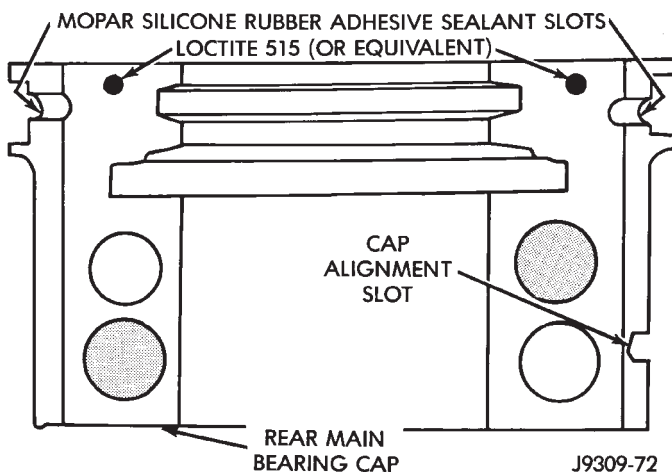
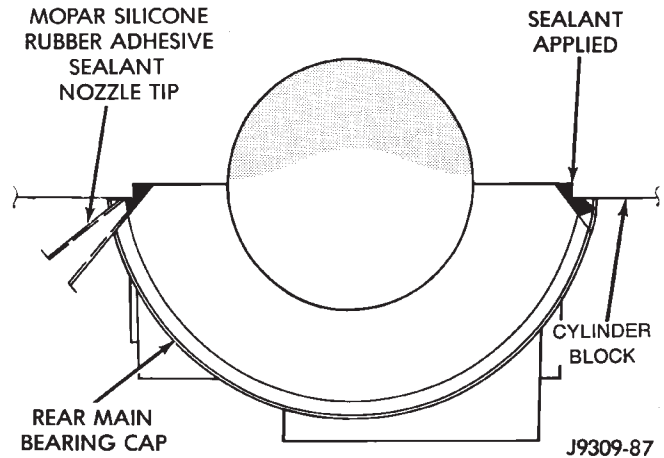

Fig. 18 Sealant Application to Bearing Cap
Fig. 19 Apply Sealant to Bearing Cap to Block Joint
- (1) Remove the crankshaft.
- (2) Lightly oil the new upper seal lips with engine oil.
- (3) Install the new upper rear bearing oil seal with the yellow paint facing towards the rear of the engine.
- (4) Position the crankshaft into the cylinder block.
- (5) Lightly oil the new lower seal lips with engine oil.
- (6) Install the new lower rear bearing oil seal into the bearing cap with the yellow paint facing towards the rear of the engine.
(7) Apply 5 mm (0.20 in) drop of Loctite 515, or equivalent, on each side of the rear main bearing cap (Fig. 18). Do not over apply sealant or allow the sealant to contact the rubber seal. Assemble bearing cap to cylinder block immediately after sealant application.
(8) To align the bearing cap, use cap slot, alignment dowel and cap bolts. Do not remove excess material after assembly. Do not strike rear cap more than 2 times for proper engagement.
(9) Clean and oil all cap bolts. Install all main bearing caps. Install all cap bolts and alternately tighten to 115 N•m (85 ft. lbs.) torque.
- (10) Install oil pump.
(11) Apply Mopar Silicone Rubber Adhesive Sealant, or equivalent, at bearing cap to block joint to provide cap to block and oil pan sealing (Fig. 19). Apply enough sealant until a small amount is squeezed out. Withdraw nozzle and wipe excess sealant off the oil pan seal groove.
- (12) Install new front crankshaft oil seal.
- (13) Immediately install the oil pan.
- (1) Remove the oil pan.
- (2) Remove the oil pump from the rear main bearing cap.
- (3) Remove the rear main bearing cap. Remove and discard the old lower oil seal.
- (4) Carefully remove and discard the old upper oil seal.
- (5) Lightly oil the new upper seal lips with engine oil. To allow ease of installation of the seal, loosen at least the 2 main bearing caps forward of the rear bearing cap.
(6) Rotate the new upper seal into the cylinder block being careful not to shave or cut the outer surface of the seal. To assure proper installation, use the installation tool provided with the kit. Install the new seal with the yellow paint facing towards the rear of the engine.
(7) Install the new lower rear bearing oil seal into the bearing cap with the yellow paint facing towards the rear of the engine.
(8) Apply 5 mm (0.20 in) drop of Loctite 515, or equivalent, on each side of the rear main bearing cap (Fig. 18). Do not over apply sealant or allow the sealant to contact the rubber seal. Assemble bearing cap to cylinder block immediately after sealant application. Be sure the yellow paint faces toward the rear of the engine.
(9) To align the bearing cap, use cap slot, alignment dowel and cap bolts. Do not remove excess ma-
(10) Install the rear main bearing cap with cleaned and oiled cap bolts. Alternately tighten ALL cap bolts to 115 N•m (85 ft. lbs.) torque.
(11) Install oil pump.
(12) Apply Mopar Silicone Rubber Adhesive Sealant, or equivalent, at bearing cap to block joint to provide cap to block and oil pan sealing (Fig. 19). Apply enough sealant until a small amount is squeezed out. Withdraw nozzle and wipe excess sealant off the oil pan seal groove.
(13) Immediately install the oil pan.
(1) Remove the oil pan.
(2) Remove the oil pump from the rear main bearing cap.
(3) Remove the rear main bearing cap and discard the old lower seal.
(4) Carefully install a new upper seal (refer to Upper Seal Replacement - Crankshaft Installed procedure above).